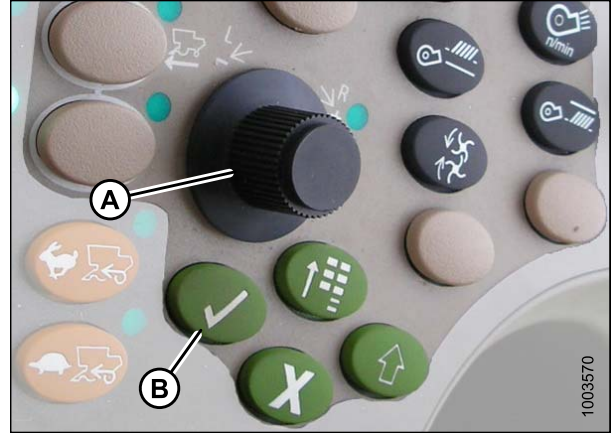

Figure 6.50: John Deere Combine Control Console
4. Select HEADER in box (A) by scrolling down to box using scroll knob, and then pressing check mark button (knob and button are shown in the image below (Figure 6.50, page 95)).
5. Scroll down to lower right icon that resembles an arrow in a diamond (B) and press check mark button to select it.